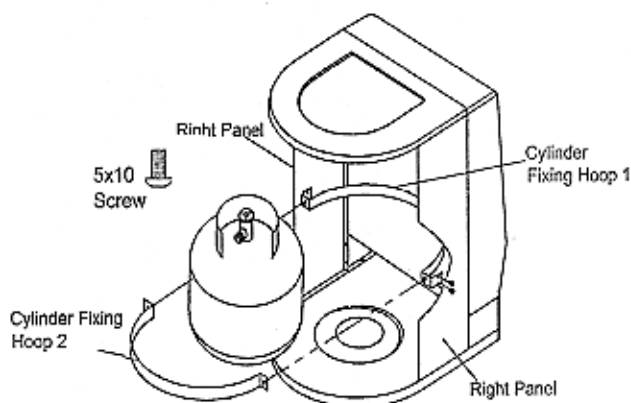

Figure 3-Installing Cylinder Hoops
4. Locate cylinder fixing hoop 1 between the right panel and the left panel, and tighten it with four M5 screws. Set cylinder on the bottom panel, and insert the holes on cylinder fixing hoop 2 into the pins on the cylinder fixing hoop1(see Figure 3) .